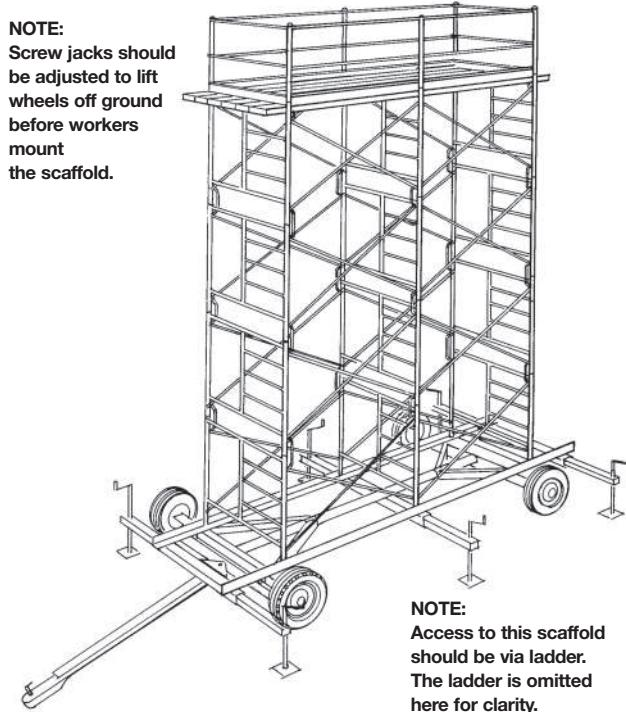

Figure 4.4
- **Farm Wagon Type.** Scaffolds erected on farm wagons or other devices with pneumatic tires are frequently used for installing sheet metal siding and similar materials on industrial buildings. For safe, effective use, the area around the building should be well compacted, relatively smooth and level. This type of scaffold must also have outrigger beams with levelling devices (Figure 4.4). It is subject to the 3-to-1 height-to-width ratio and is impractical for heights greater than 7.5 metres (25 feet). The scaffold should always be resting on the outriggers while workers are aboard. It should never be used as a work platform while it is “on rubber.”